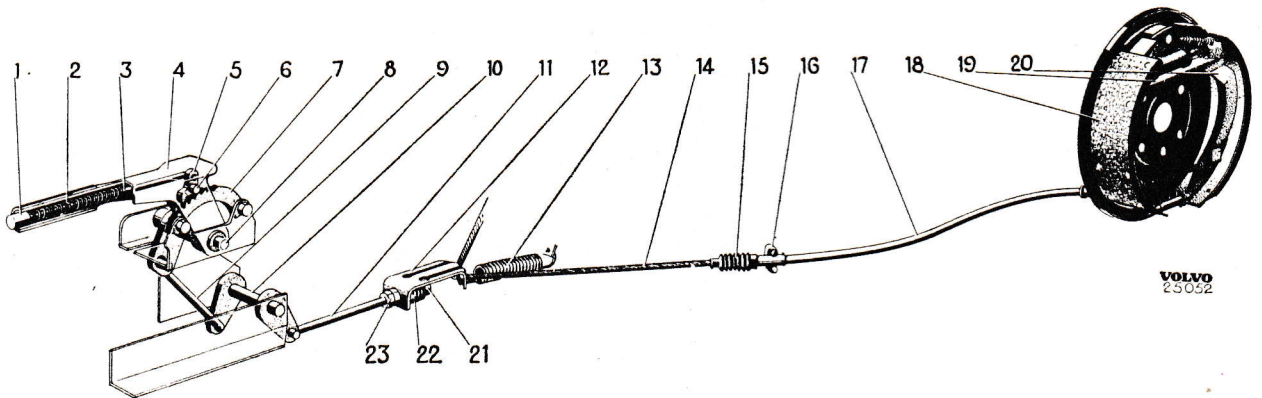

Fig. 7. Handbrake system.
The handbrake lever is fitted on the tunnel between the front seats. The action of the lever is transmitted through a system of rods and levers to the clevis (12, Fig. 7). From there the movement is transmitted by cables (14) to the rear wheel brake unit levers (20). The upper ends of these levers are attached to the rear brake shoes. When the levers are pulled forwards the shoes are pressed outwards by means of the link (19) and the handbrake is thus applied.